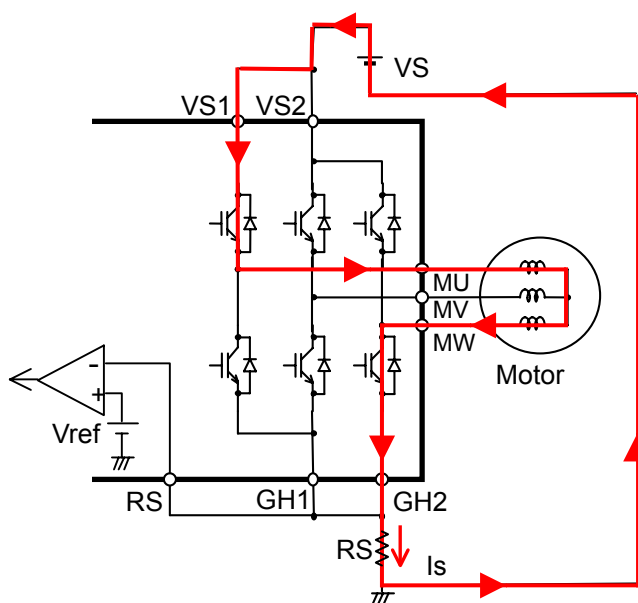

Fig. 5-2. Current of shunt resistance (typical)
- The system monitors the current flowing through the shunt resistance R_s at the RS pin (see Fig. 5-2). When the reference voltage for current limitation ($V_{ref} = \text{typ. } 0.5V$) is exceeded, the IGBT of the bottom arm is turned off.